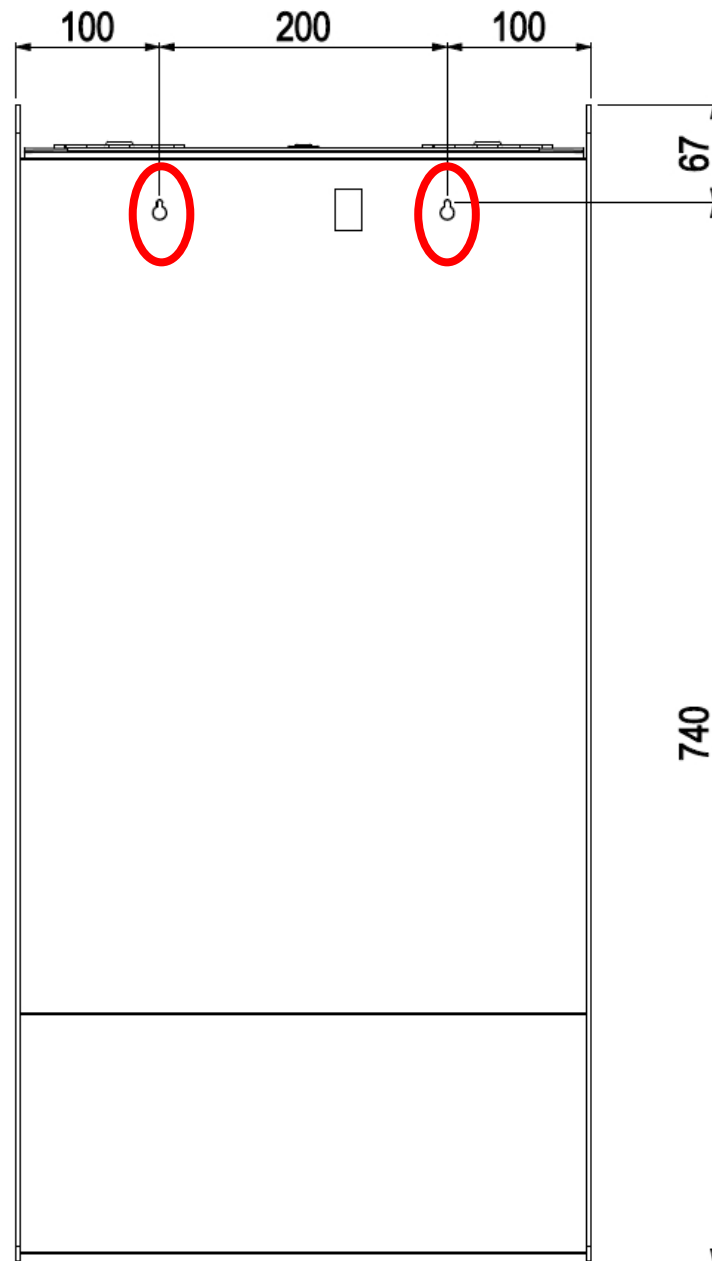

Fig. 7
6. Remove the two hole caps on the back of Dual Coin PRO and indicated with a circle in the Figure 7 below.